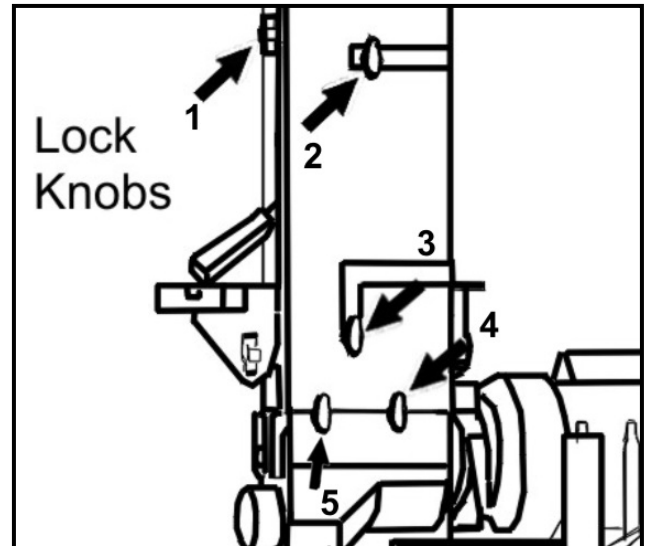

Figure-6 Lock knobs to be loosened
2. Loosen the 5 lock knobs securing the belt guard and remove it. See figure-6